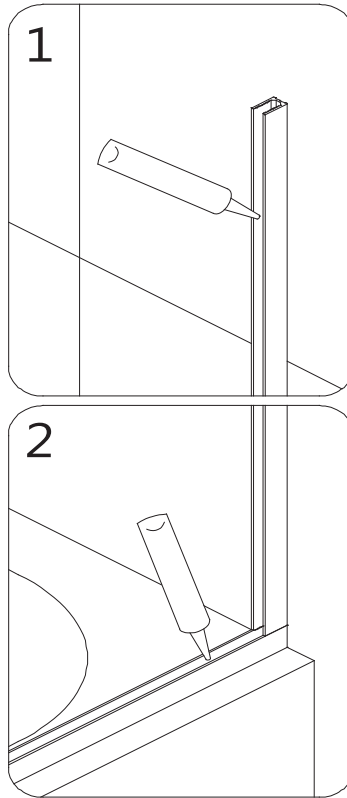

Fig 12
10. Apply waterproof silicone into both U-Channels. **(Fig 12)**